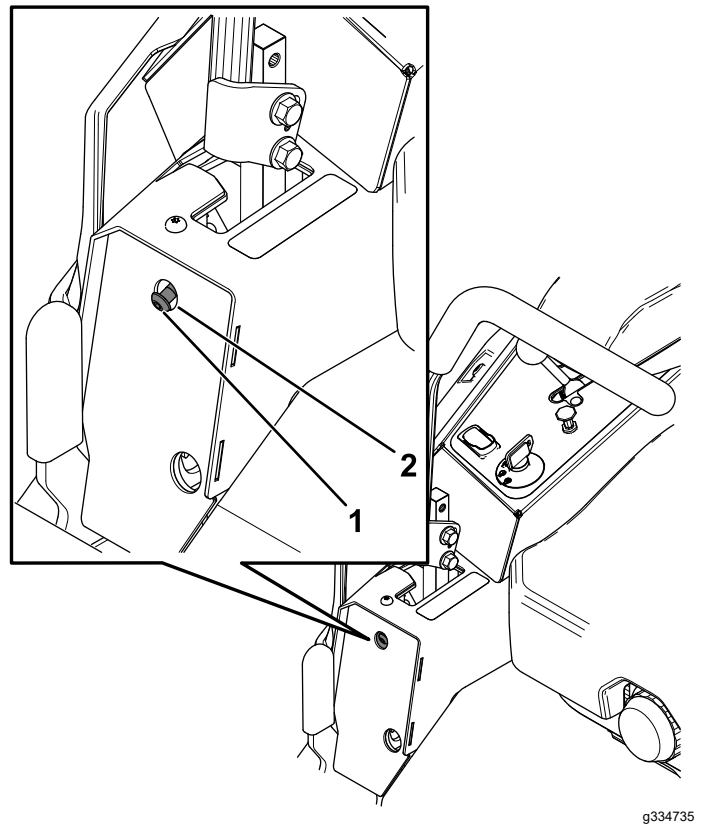

Figure 65
6. If the machine tracks to the right, insert a 3/16 inch hex wrench through the access hole in the left, front cover panel and rotate the tracking screw clockwise or counterclockwise to adjust the travel of the lever (Figure 65).
7. If the machine tracks to the left, insert a 3/16 inch hex wrench through the access hole in the right, front cover panel and rotate the tracking screw clockwise or counterclockwise to adjust the travel of the lever (Figure 65).